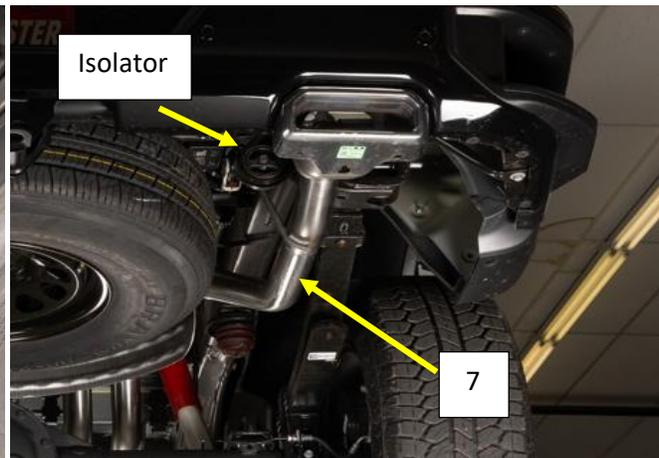

**Figure.14**
15. Install a 2.5" Band clamp (8) onto each of the muffler outlets. **Fig.14**
16. Install the Right front tail pipe (5) over the axle and into the muffler outlet neck. Rotate the pipe and install the hanger rod into the isolator, Tighten the clamp to allow for adjustment. **Fig.14**
17. Install the Left front tail pipe (4) over the axle and toward the driver's side of the spare tire. Install the tail pipe into the muffler outlet neck. Rotate the pipe and install the hanger rod into the isolator. Tighten the clamp to allow for adjustment. **Fig.14**